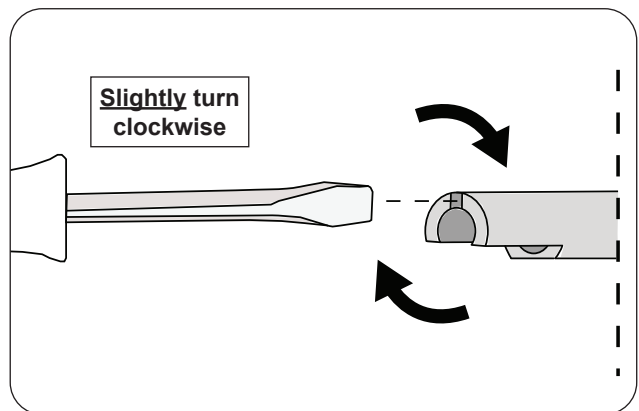

Fig. 49-2 Stem adjustment
2. Insert a flathead screwdriver into the split portion of the stem and GENTLY turn the screwdriver clockwise. Be cautious! Only a slight turn is needed as the stem is flexible. See Fig. 49-2.